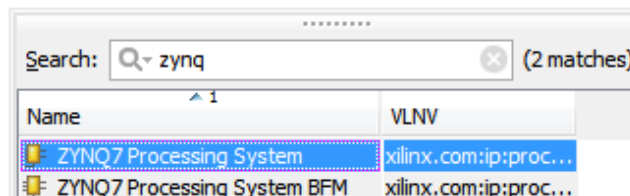

Figure 1.12: Adding ZYNQ7 Processing System from IP
- (d) Enter **zynq** in the search field and select the **ZYNQ7 Processing System**, as shown in Figure 1.12, and press the **Enter** key on your keyboard.